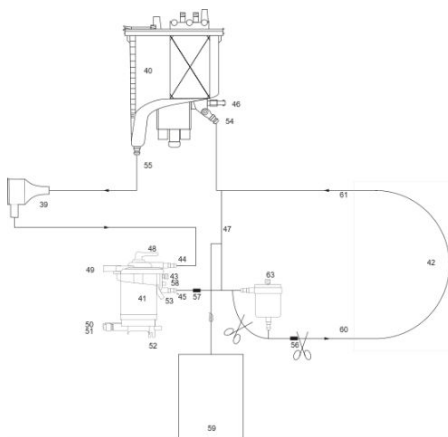

Figure 15: Clamp on arterial line
- Open bypass (47) and clamp the arterial line (60) to prime the bypass (figure 15).